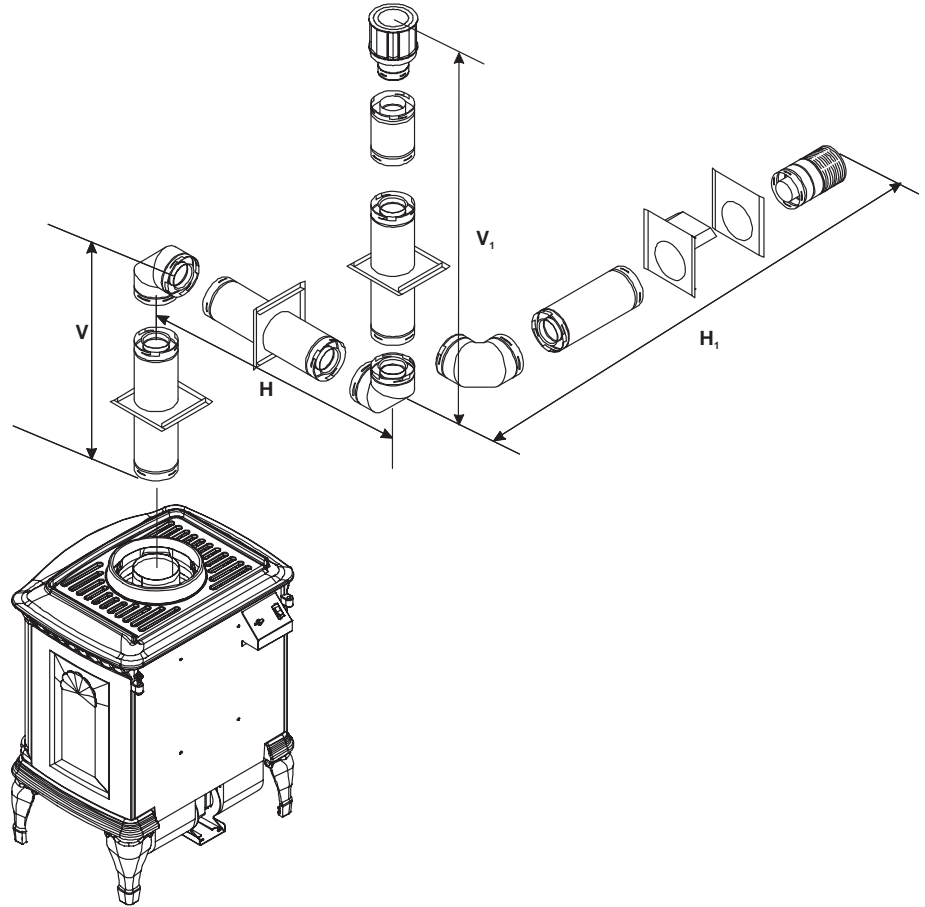

Figure 10. Flue System with Two 90° Elbows
- Apply a (10 mm) bead of stove cement around the end of the stove 102 mm starting collar and the flue extension **BEFORE** installing the first flue component. The sealant should be placed 25 mm from the end of the collar as shown in Figure 10. The stove sealant is supplied in all termination kits. If the first flue component is not properly installed and sealed tightly to the appliance flue starting collars, the appliance may not operate properly. This is especially important for 102 mm inner pipe. **The crimped end goes up.**
- Lock the flue components into place by sliding the concentric pipe sections with four (4) equally spaced interior beads into the stove collar or previously installed component end with four (4) equally spaced indented sections.